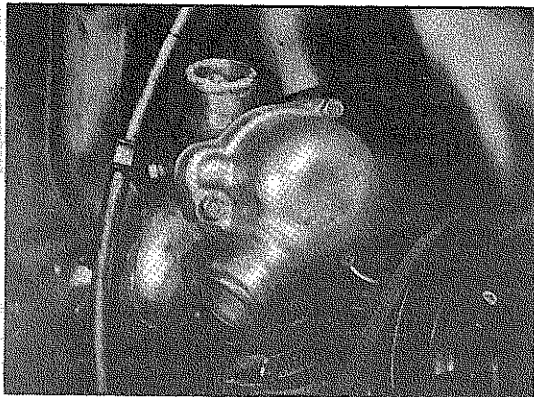

Fig. 19
- 4) Remove the three setscrews (1) from the
base of the upper body and remove the upper body (2) shown in Fig. 19.